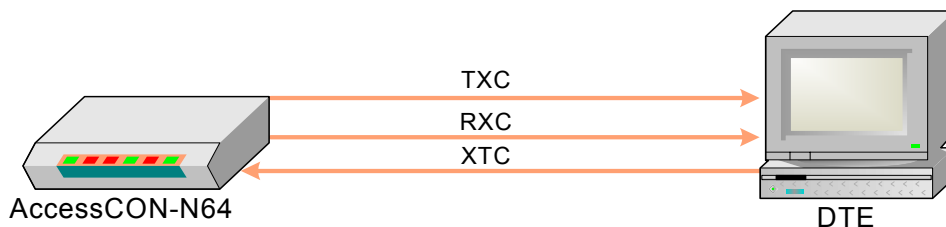

Fig. 1.3. DCE Description
- **DCE** – AccessCON-N64 provides transmit and receive clocks for the user's equipment connected to the data port. And accepts XTC clock from the equipment. *Figure 1.3* shows the flow of timing signals through the user's data port in the DCE mode.